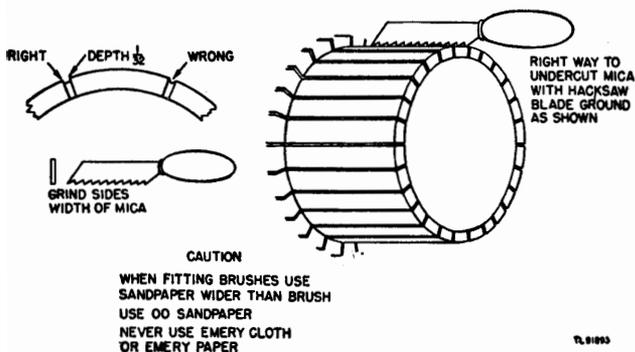

Figure 51. Care of commutator.
(3) The commutator acquires a mahogany-colored surface after being in service a short time. If smooth, this surface requires no attention. Slight roughnesses may be improved by holding a piece of #00 sandpaper against the surface while the engine operates slowly. Brushes should be lifted in holders while doing this operating. A badly worn, burned or pitted commutator will require refinishing in a lathe. After refinishing the commutator, or whenever the copper has worn down flush with the mica insulation which is between the bars, the mica must be undercut $\frac{1}{32}$ inch as shown in figure 51. These operations should not be attempted by unauthorized personnel.